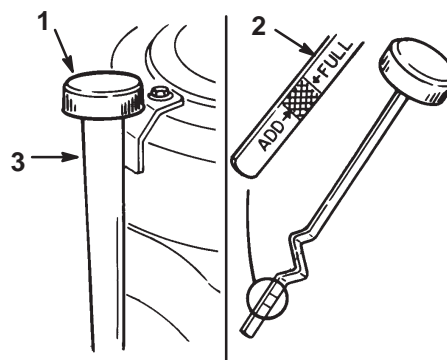

Figure 20
3. Clean around the oil dipstick (Fig. 20) so dirt cannot fall into the filler hole and damage the engine.
4. Unscrew the oil dipstick and wipe the metal end clean (Fig. 20).
5. Slide the oil dipstick fully into the filler tube, do not thread onto tube (Fig. 20). Pull the dipstick out and look at the metal end. If oil level is low, slowly pour only enough oil into the filler tube to raise the level to the “FULL” mark.
7. Slowly pour approximately 80% of the specified amount of oil into the filler tube (Fig. 20). Now check the oil level; refer to Checking Oil Level, page 24. Slowly add additional oil to bring to "FULL" mark on dipstick.